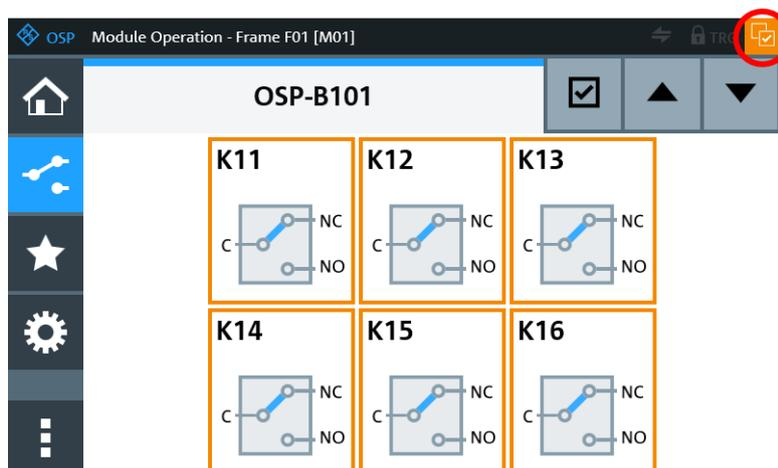

Figure 5-23: All items (here: relays) selected in a module's operation dialog
- If this button was disabled when you clicked "Select All", it remains disabled, as in Figure 5-23